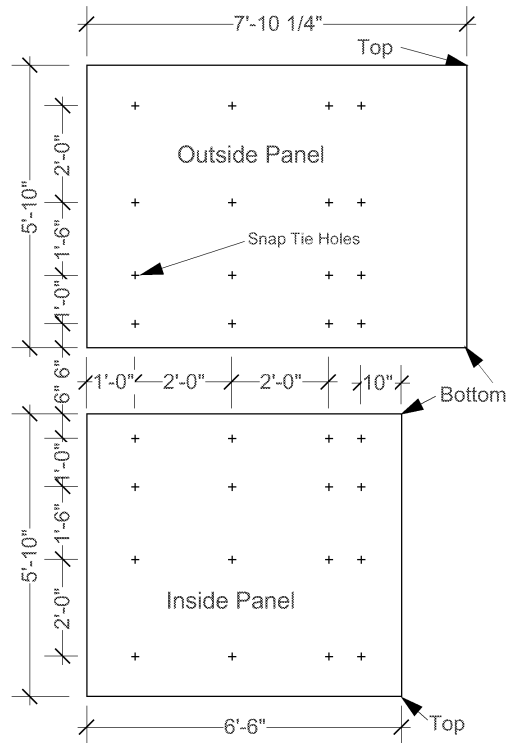

Fig. 6-9
- The panel detail will look like (Fig. 6-9 on page 68) . Note the panel edges away from the concrete corner are aligned; and the snap tie holes in the opposite panels are also aligned